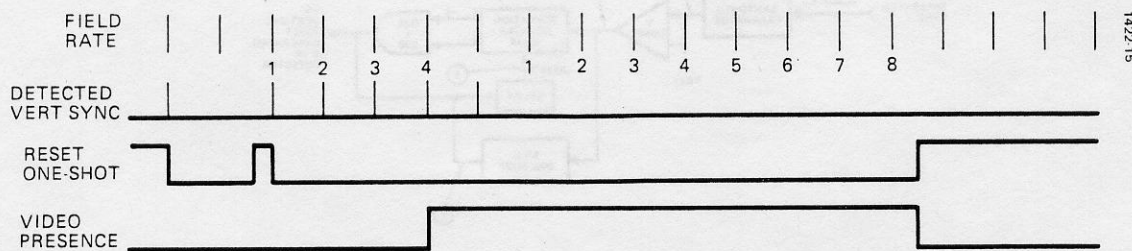

Figure 10. Video Presence Detector, Timing Diagram
The Video Presence Detector must receive four consecutive vertical pulses in order to detect the presence of video, and approximately 8 fields of missing vertical pulses to indicate that video is not present. Figure 10 shows the timing diagram for the Video Presence Detector. IC31(B) is a retriggerable one-shot. Its timing is a function of the presence of video. When video is applied to the input, IC31(B) triggers on the first detected pulse from the vertical separator. Video presence has not yet been detected; therefore, the VP line is low, which turns Q26 on.